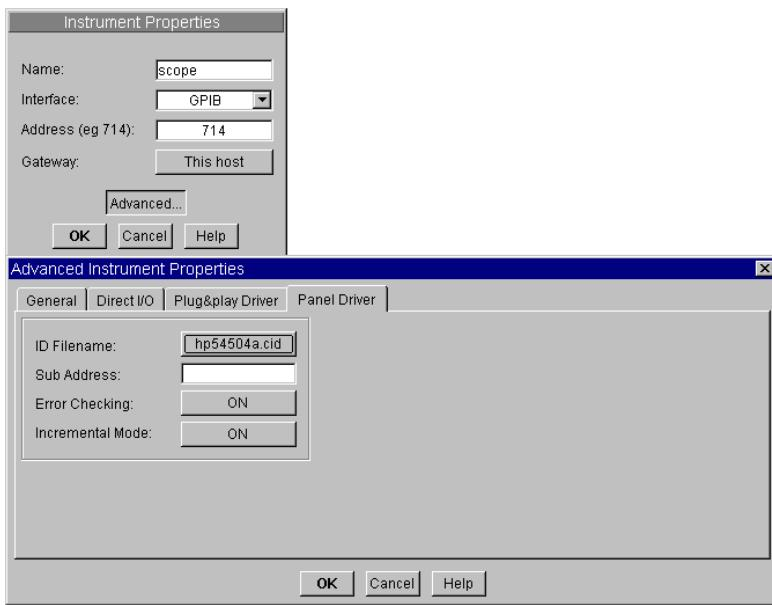

Figure 3-9. The Panel Driver Folder
4. Toggle Live Mode to OFF. Then click the Panel Driver folder, and the dialog box appears as shown in Figure 3-9.
6. Scroll down the list to highlight **hp54504a.cid**, then click **Open**. Figure 3-9 shows this instrument already selected. You can also double-click on a highlighted file to select it.